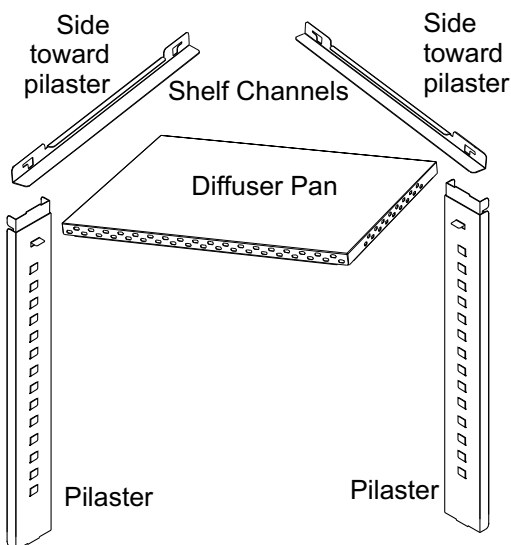
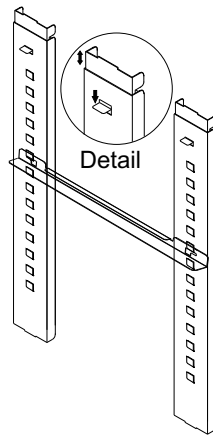

Figure 1-7. Shelf Installation
Figure 1-9. Installed Shelf Channel
1. Install the pilasters, two on each side, with the tab facing into the center of the chamber with their slots up. Press downward on the top section of each pilaster to locate, then release when in position (Figure 1-9). Fit each pilaster securely into the indentations at each side of the ceiling and the floor of the chamber. Figure 1-7 shows the diffuser pan, pilasters, and shelf channels.
- Figure 1-9 shows a shelf channel installed on pilasters on the right side of the chamber.